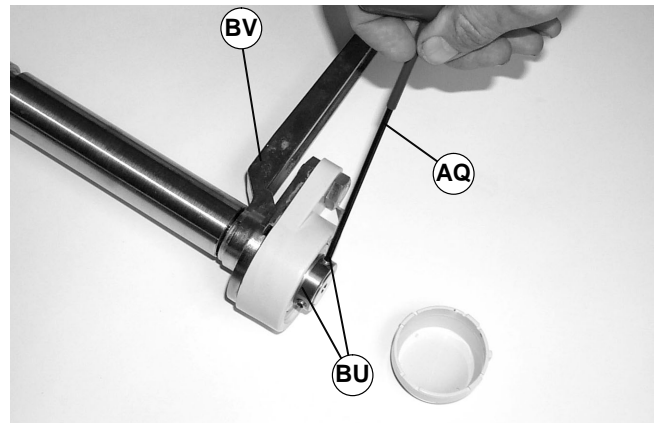

Figure 43
7. Using a 3mm hex key wrench (AQ of Figure 43), loosen two set screws (BU) on bearing and head plate assembly (BV).
8. Using a 3mm hex key wrench (AQ of Figure 43), tighten two set screws (BU) on each bearing and head plate assembly (BV).